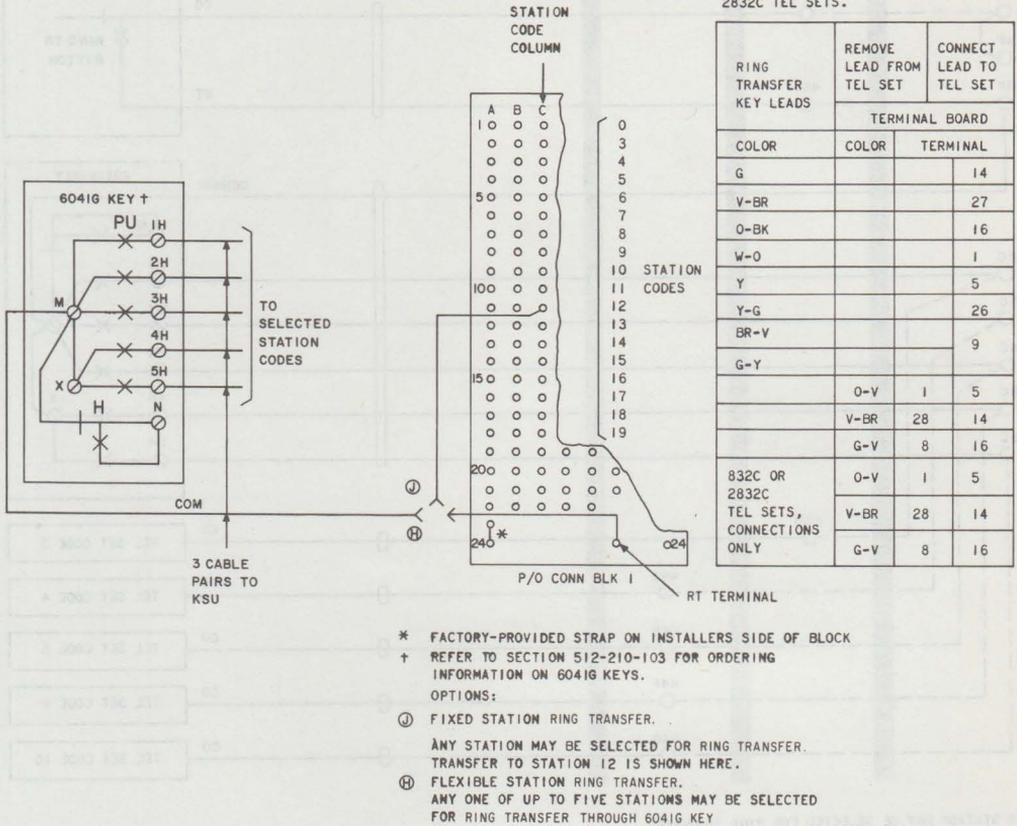

Fig. 32—Connections for Ring Transfer
**4.42** The attendant telephone set must be equipped with a ring transfer button to control ring transfer. Where the 832/2832C, CM or EM telephone set is installed as an attendant station, the factory-provided RING TR button must be wired in. See Fig. 32 for connections. Where the 832A or 2832A telephone set is installed as an attendant station, a D-180487 Kit of Parts must be added to the telephone set as follows:
- (1) Remove faceplate
- (2) Pry apparatus blank off locating pins (located below and to the right edge of key strip)
- (3) Press ring transfer button (651C key) on locating pins
- (4) Connect leads according to Fig. 32
- (5) Install designation strip in key cap
- (6) Replace faceplate.
**4.43** For fixed station ring transfer, in the KSU, run a strap from the RT terminal (column F, terminal 24) on connecting block 1 to the station code or station codes (column C, connecting block 1) selected for ring transfer. For example, Fig. 32 shows station 12 wired for ring transfer. When more than one station code is connected to the RT terminal, run a continuous strap to all stations (ten maximum) selected for ring transfer.
- (1) Install a 6041G key at the attendant station
- (2) Provide three cable pairs or six 24-gauge conductors between the 6041G key and the KSU
- (3) Connect one conductor (common lead) to terminal M of the 6041G key and strap terminals M and X together (see Fig. 32 or 33)
- (4) Terminate the remaining five conductors on terminals 1H, 2H, 3H, 4H, and 5H of the 6041G key
- (5) At the KSU, terminate one conductor (common lead) on the RT terminal (column F, terminal 24) of connecting block 1
- (6) Terminate the remaining five conductors on the terminals of connecting block 1, column C, corresponding to the codes of the stations selected for ring transfer (see Fig. 32)
- (7) Install designation strip on 6041G key—Designate the first button (position A) as RELEASE and label the remaining buttons according to the stations they connect for ring transfer.